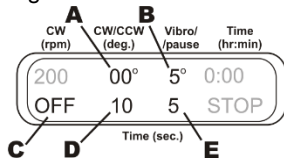
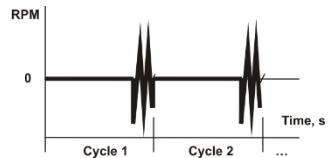

Figure 9.
Figure 10.
6.9.4. **Vibro motion + Pause.** Turn off Rotational motion by setting time of rotational motion to zero (OFF, fig. 9/C). Set the turning angle of reciprocal motion to zero (fig. 9/A) and set the time for reciprocal motion (1-250 s, fig. 9/D) - this is the duration of pause. Set the turning angle (1-5°, fig. 9/B) and time (1-5 s, fig. 9/E) for vibro motion. Graph in figure 10 shows motion in this mode.